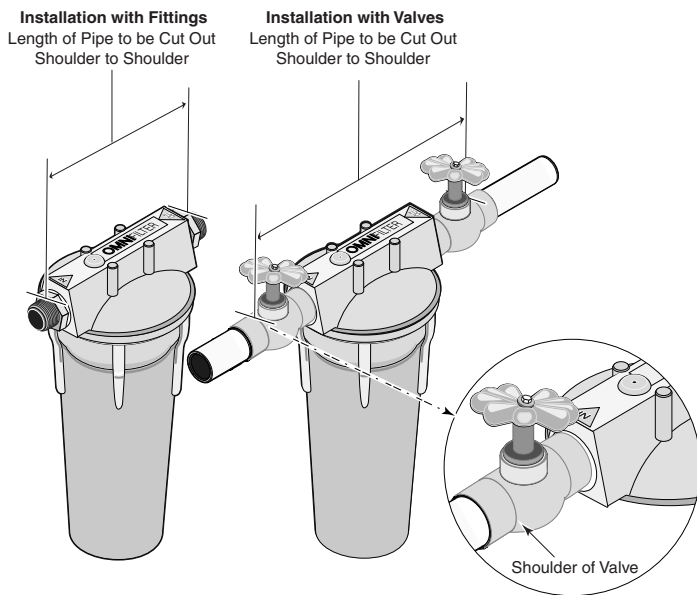

Figure 3
4. Cut out the correct length of pipe. Use a pipe cutter or hacksaw. File or sand the ends of the pipe to make sure they are smooth and square. See Figure 3.